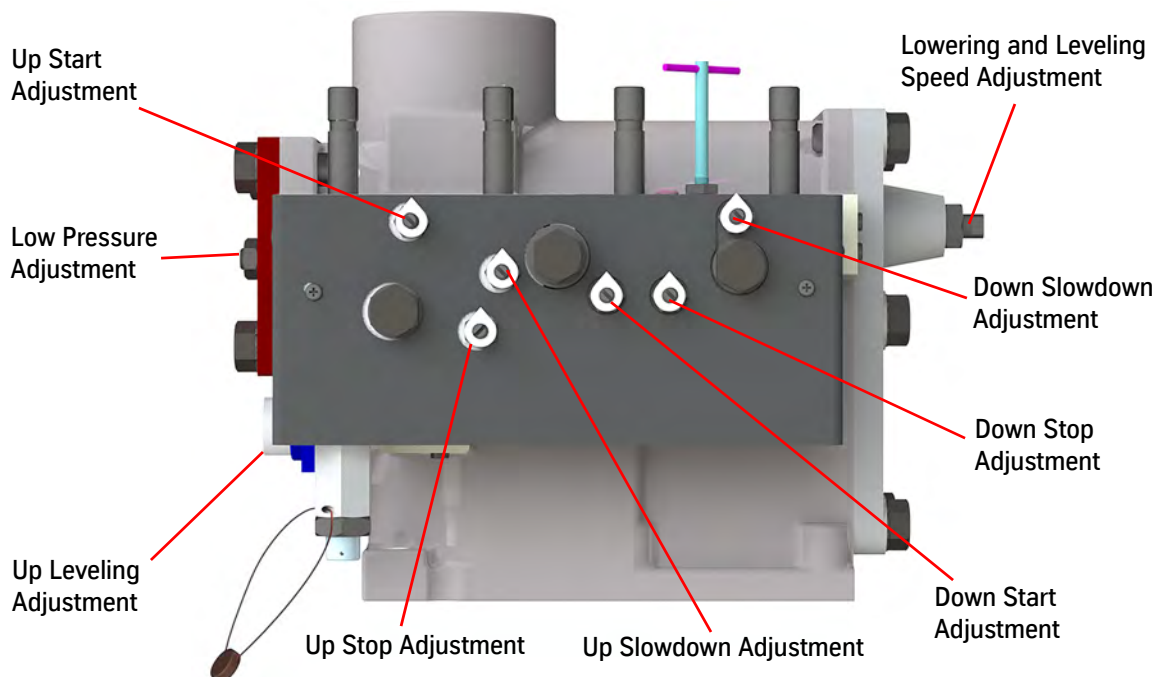

Figure 2 - Valve Adjustments
1. Turn the low pressure adjustment screw OUT  $1\frac{3}{4}$ " beyond the cover plate. See Figure 2.
1. Turn the up start, up stop, and up slowdown adjustments IN to the fully closed position. See Figure 2.
1. Turn the down start, down stop, and down slowdown adjustments IN to the fully closed position. See Figure 2 on page 8.